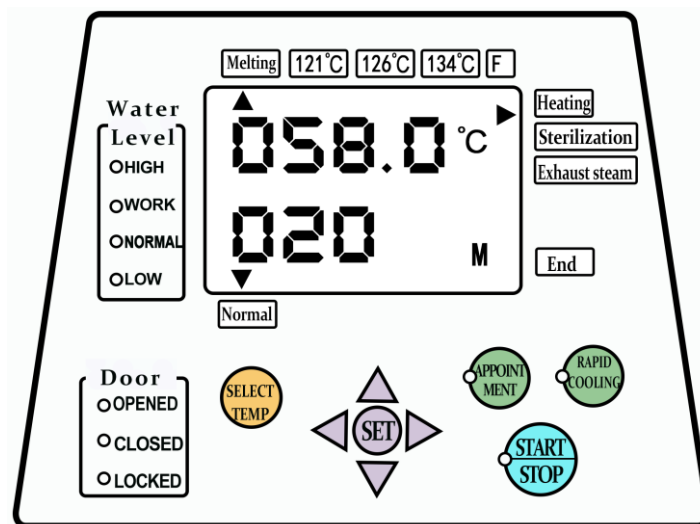

图 3
- 7.6 Panel Display Part: (Refer to **Fig.3**)